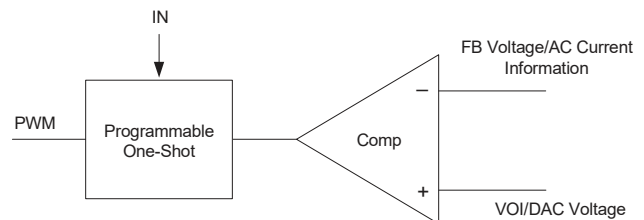

Figure 9. Simplified Control Schematic
The control algorithm of AOZ22722QI is constant-on time PWM control with input feed-forward. The simplified control schematic is shown in Figure 9. The high-side switch on-time is determined solely by a one-shot whose pulse width is inversely proportional to input voltage (IN). The one-shot is triggered when the internal VOI/DAC voltage is higher than the combined information of output voltage and the AC current information of inductor, which is processed and obtained through the sensed low-side MOSFET current once it turns-on. The added AC current information can help the stability of constant-on time control even with pure ceramic output capacitors, which have very low ESR. The AC current information has no DC offset, which does not cause offset with output load change, which is fundamentally different from other  $V^2$  constant on-time control schemes.